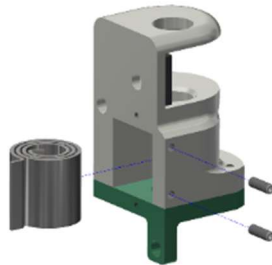

Figure 7-11. Install two M4 X 0.7 X 20 LG. SSSFP SS
- 7.3.1 Install two M4 X 0.7 X 20 LG. SSSFP SS to the Spine-Shoulder Coupler, Top (474-3501-1,2-A) (Figure 7-11).